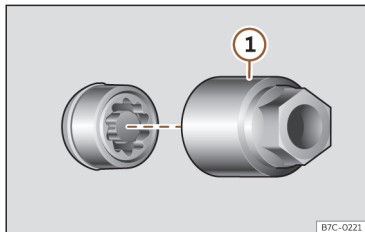

Fig. 166 Anti-theft wheel bolt with cap and adapter.
- Insert the special adapter»» Fig. 166 ① (vehicle tools)»» page 247) onto the anti-theft wheel bolt and push it on as far as it will go.